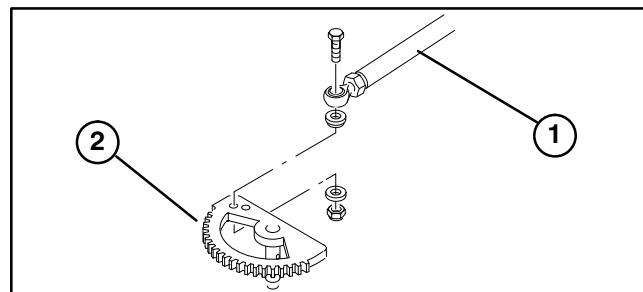

Figure 3
6. Remove capscrew, washers and locknut securing front end of steering rod to steering sector gear (Fig. 3). Re-position rod so curved end of rod is to the rear. Secure straight end of rod to steering sector gear with fasteners previously removed. Make sure a washer is on each side of steering sector. Tighten nut to 40–45 N·m (30–35 ft-lb).